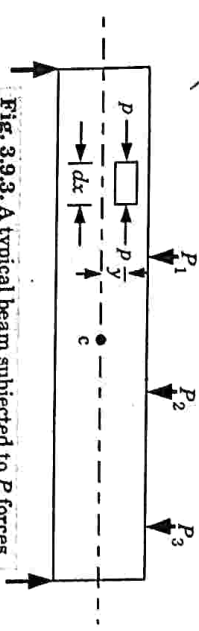

Fig. 3.9.3. A typical beam subjected to  $P$  forces.
1. Consider the beam shown in Fig. 3.9.3 subjected a system of  $P$  forces.